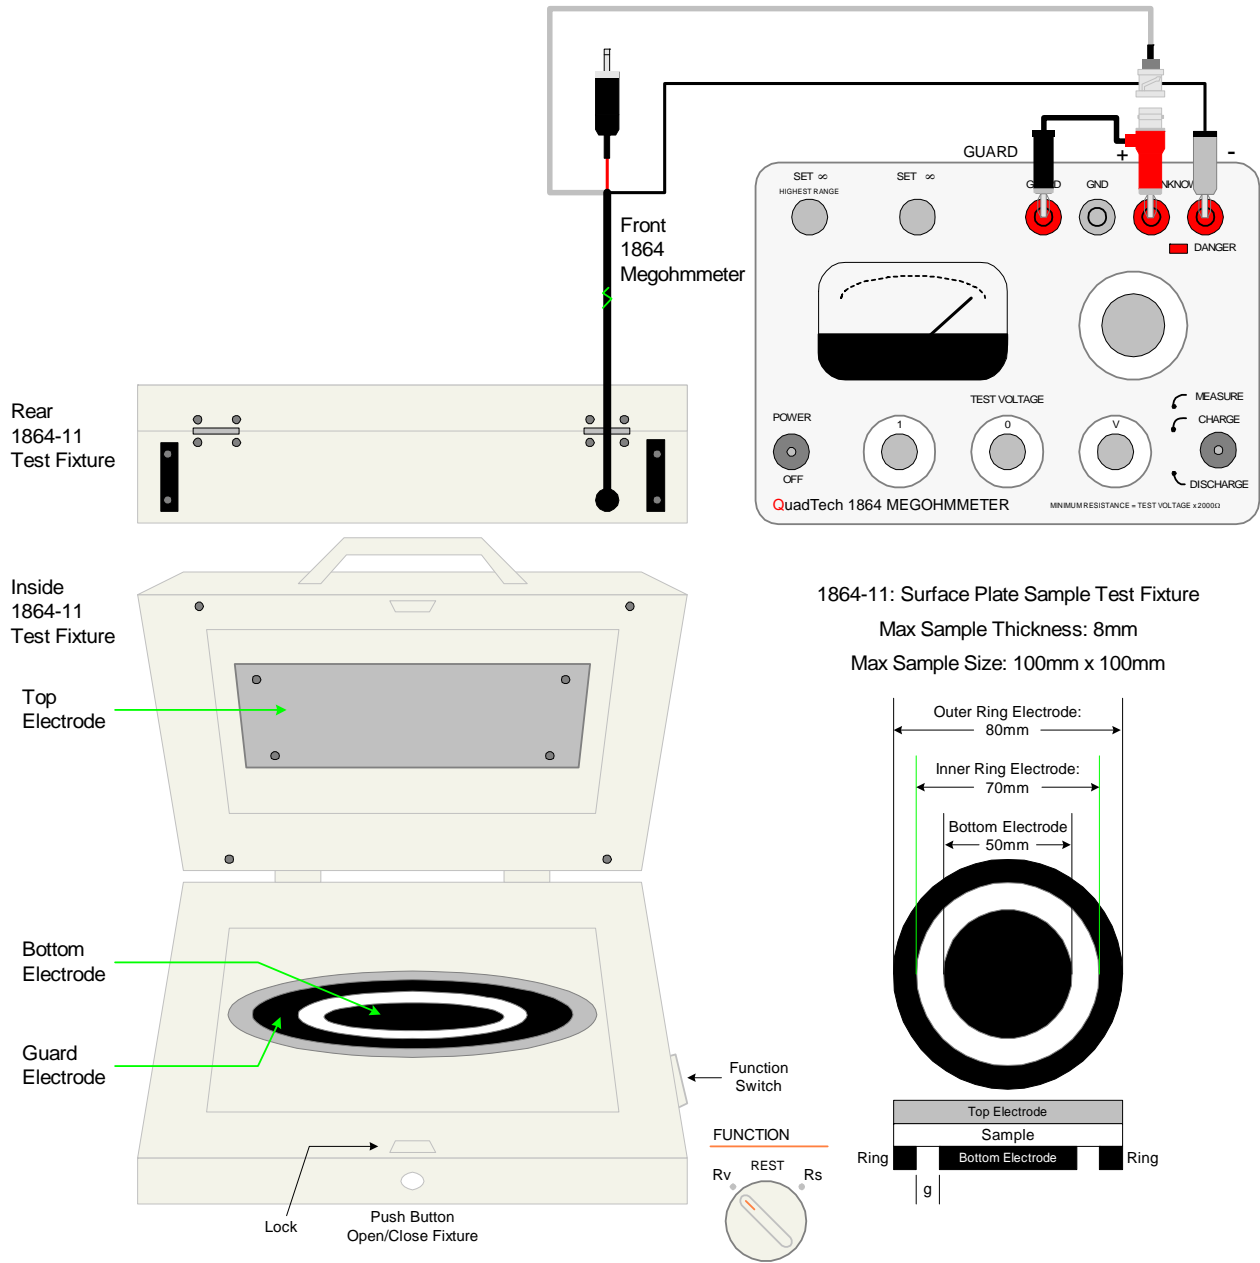

Figure 2: Connection of an 1864-11 Test Cell to an 1864 Megohmmeter
Make connections carefully as illustrated in Figure 2. It is important to follow these directions exactly to avoid improper measuring techniques and damage to the test fixture. Proper knowledge of material and fixture allows the DUT to be measured accurately while taking into account correct polarity. **To connect the fixture to an 1864 Megohmmeter:**
6. For accurate measurements perform a zero each time the voltage is changed and each time the Rs/Rv switch setting on the fixture is changed. Refer to Figure 2.
Figure 2 illustrates the connection of the 1864-11 Test Cell to an 1864 Megohmmeter.